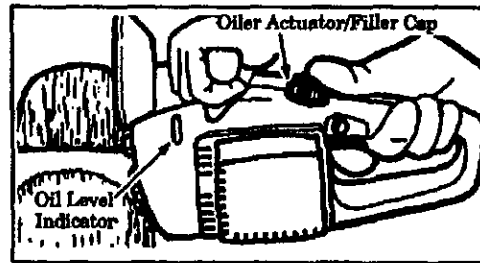

Figure 16
- Check the oil level indicator frequently during use. Locate the indicator in the saw frame just below and behind the front handle. Figure 16. If oil is not visible in the slot when saw is upright on a level surface, the tank requires filling.